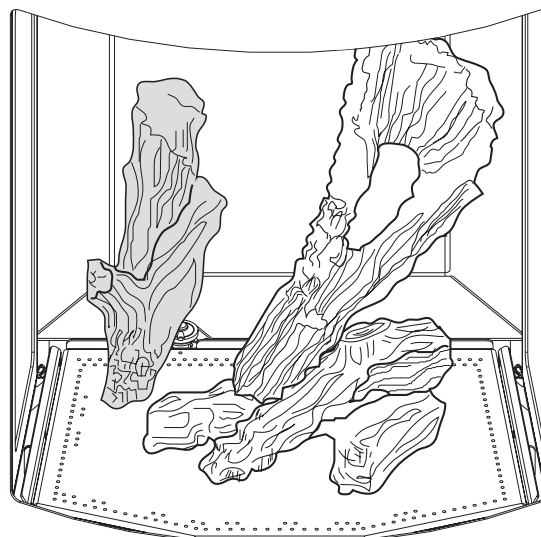

Figure 30. Engage the Left Log with the rear burner plate pin.
3. Remove the door handle from the door as shown in fig. 30. Attach the lower front bracket to the door using two M6 x 20 socket screws and the 4 mm hex key. Replace the door handle assembly using the #2 and #4 hole locations to move the handle forward to align with the glass panel.